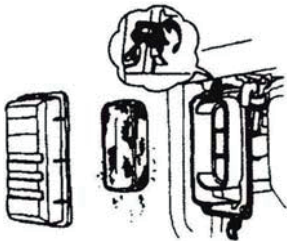

Fig. 17
3.3.1 Remove the air cleaner housing (Figure 17)